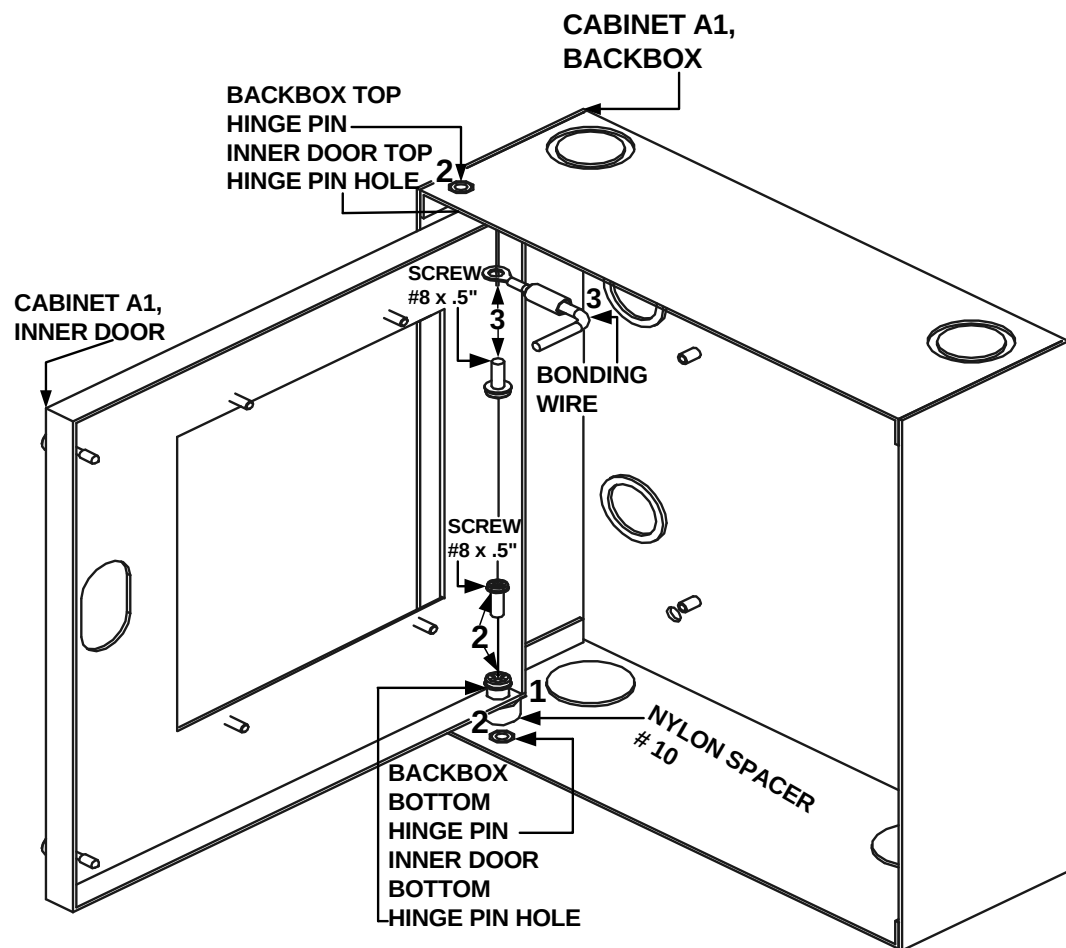

Figure 2.5.1.4.1 Cabinet A1, Inner Door to the Backbox Installation
**NOTE:** For information on the installation of the opposite end of the bonding wire, see Section 2.5.1.5 Step 2, Location 2 of Figure 2.5.1.5.1.